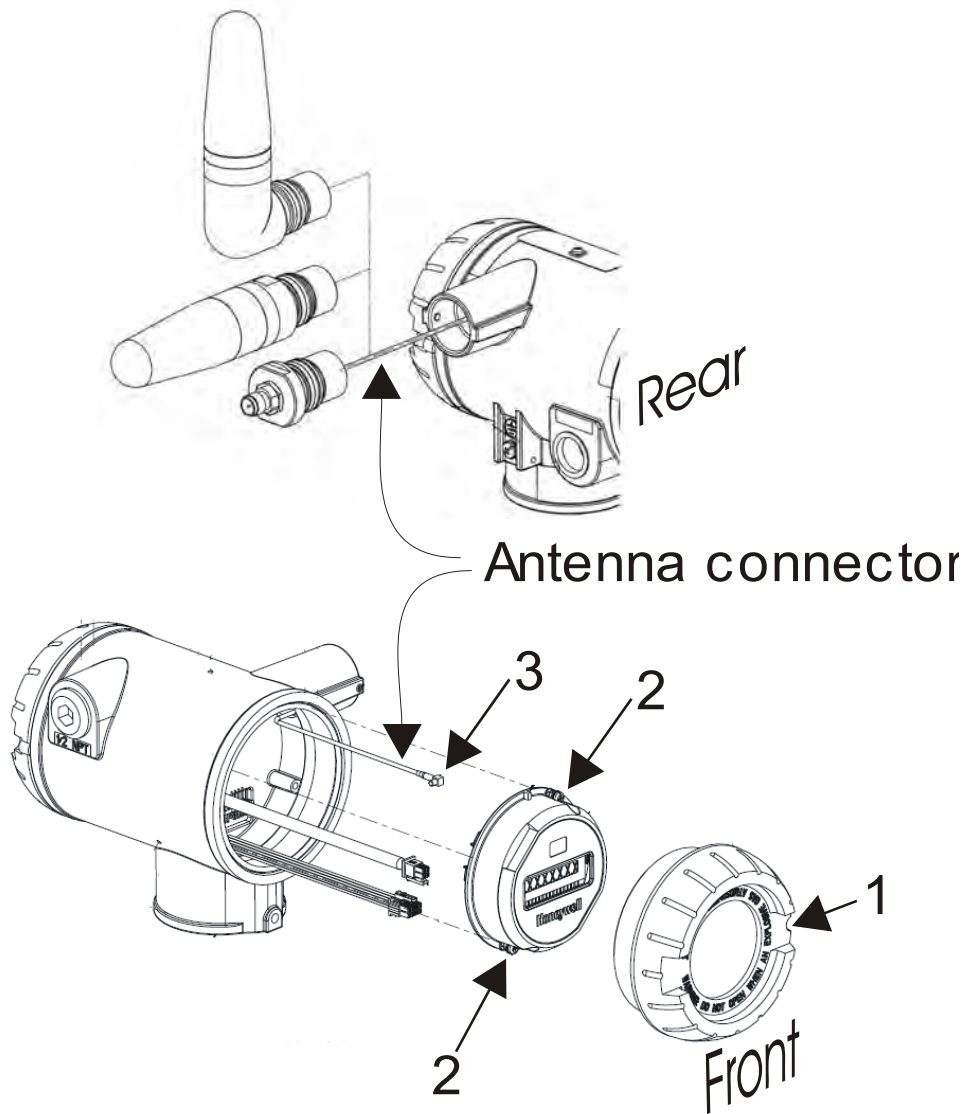

Figure 11 Antenna replacement
2	Loosen the M3 locking set screw on the display end-cap. See item 1 in Figure 11. Unscrew and remove the front end cap.
3	Loosen the two screws on the sensor module. See items 2 in Figure 11.
4	Remove the sensor module from the transmitter body and disconnect the antenna connector from CN2 connector on the sensor module. See item 3 in Figure 11.
8	Insert sensor module. Orient in the proper viewing orientation before tightening two sensor compartment screws. See items 2 in Figure 11. Torque screws to 0,4 – 0,6 N-M (3.5 – 5.3 Lb-in).